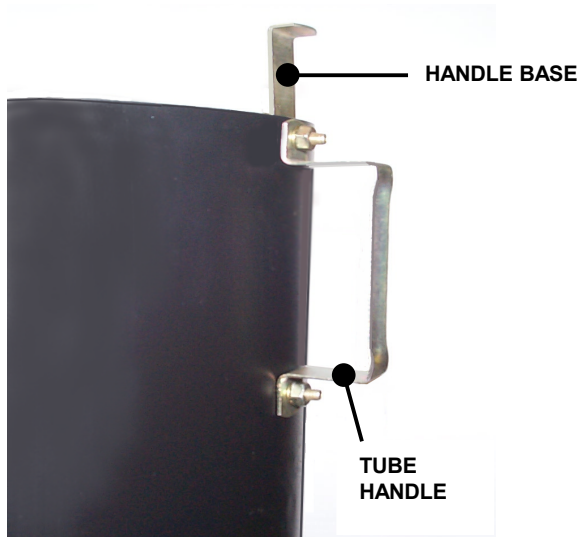

FIGURE 1.18
- A. Attach Tube Handle and Handle Base to Tube before installing Tube to catcher. Insert (2) 1/4-20 x 3/4" Carriage bolts through Handle Base and holes in Tube as shown. See Figure 1.18. Place Tube Handle over bolts followed by 1/4" Internal Tooth lock washers and secure with (2) 1/4-20 hex nuts. Tighten securely. See Figure 1.18.